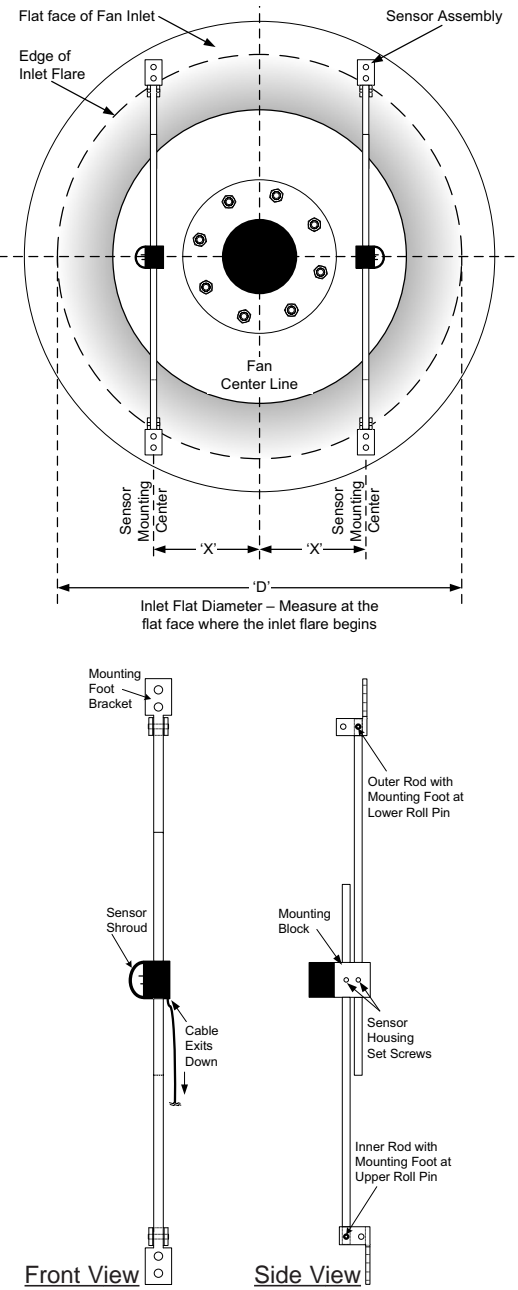

Figure 8. Forward Mount Detail
2. Use the hex wrench provided to loosen the sensor housing set screws on the sensor mounting block as shown in Figure 8.
3. Using sensor marked "INSIDE LEFT", insert an inner mounting rod (with mounting bracket attached at inner roll pin) into sensor mounting block inner rod hole with sensor oriented as in Fig. 8.
4. Insert outer mounting rod (with mounting bracket attached at outer roll pin) into sensor mounting block outer rod hole (Figure 8).
5. Using sensor marked "INSIDE RIGHT", repeat steps 3 and 4 with sensor shroud oriented to the right (opposite) as in Figure 8.
8. Using Diameter 'D', locate DIMENSION 'X' in Table 6 to determine the fan inlet center to sensor center line for each sensor as shown in Figure 8.
10. Install sensor assembly labeled "INSIDE LEFT" at the left side of the flat face of the fan inlet as in Figure 8. Use suitable hardware for installation that does not hinder rotation of the fan.
11. Install sensor assembly labeled "INSIDE RIGHT" at the right side of the flat face of the fan inlet as in Figure 8. Use suitable hardware for installation that does not hinder rotation of the fan.
Refer to detail in Figure 8 for "D" Inlet Diameter and "X" distance between fan center line and sensor center line.